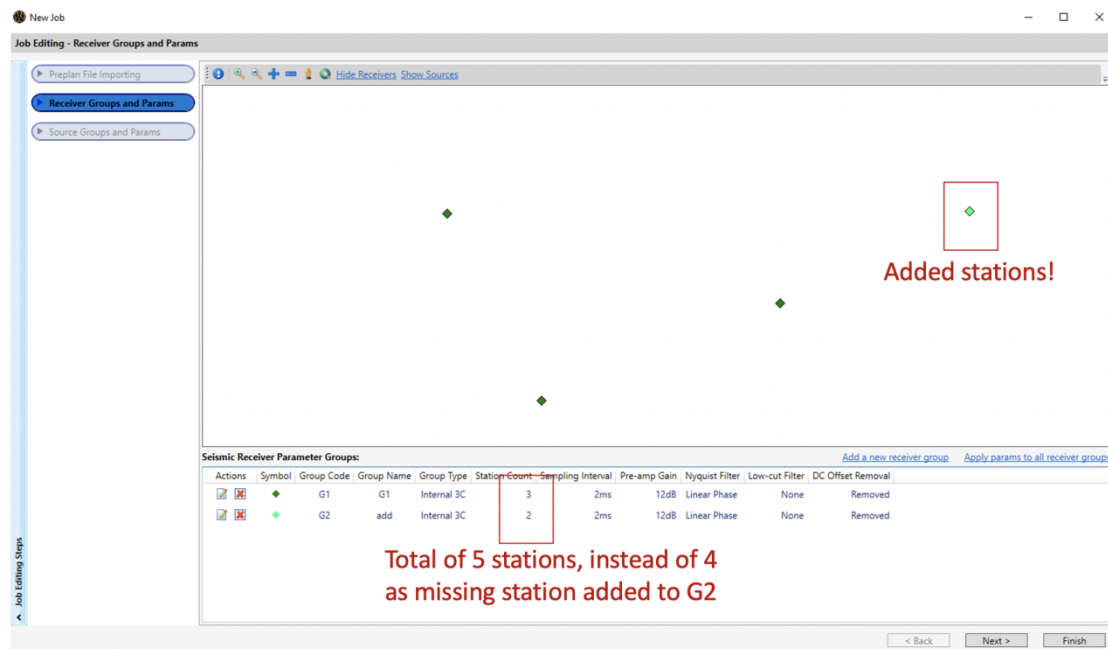

Figure 4-5 Final version of Receiver Groups and Params page.
- Make sure the total Station Count on the Receiver Groups and Params page is accurate and hit Next (see Fig 4-5). Otherwise, repeat the *'Add a New Receiver Group'* to select missed stations.